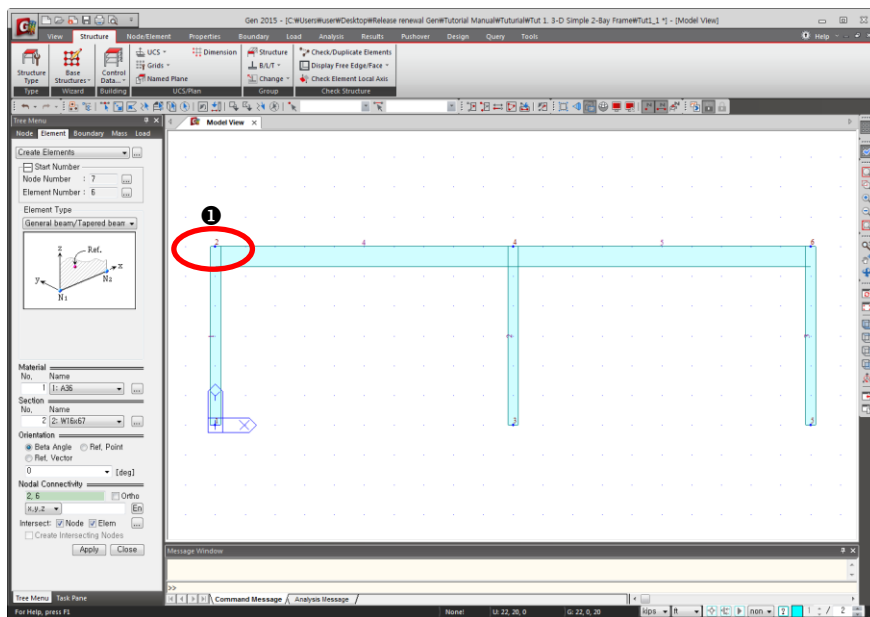

Figure 1.9 Generation of 2-D Frame
☞ Check (✓) **Align Top of Beam Section to Floor (X-Y Plane)** for **Panel Zone Effect/ Display in Structure > Type > Structure Type of Main Menu**. Then, the effect of the beam/column panel zone will appear as ❶ in Fig.1.9.